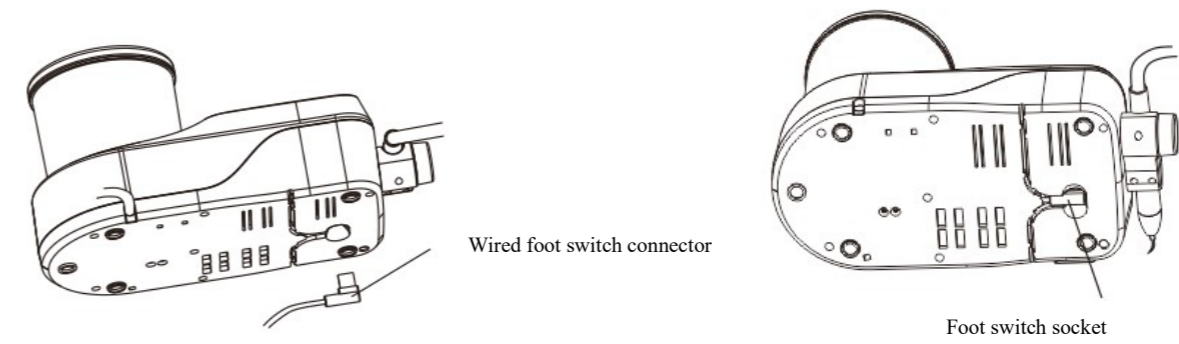

Figure 3
- (3) Install the batteries into the wireless foot switch, or plug the wired foot switch connector into the socket (see Figure 7, Figure 3).